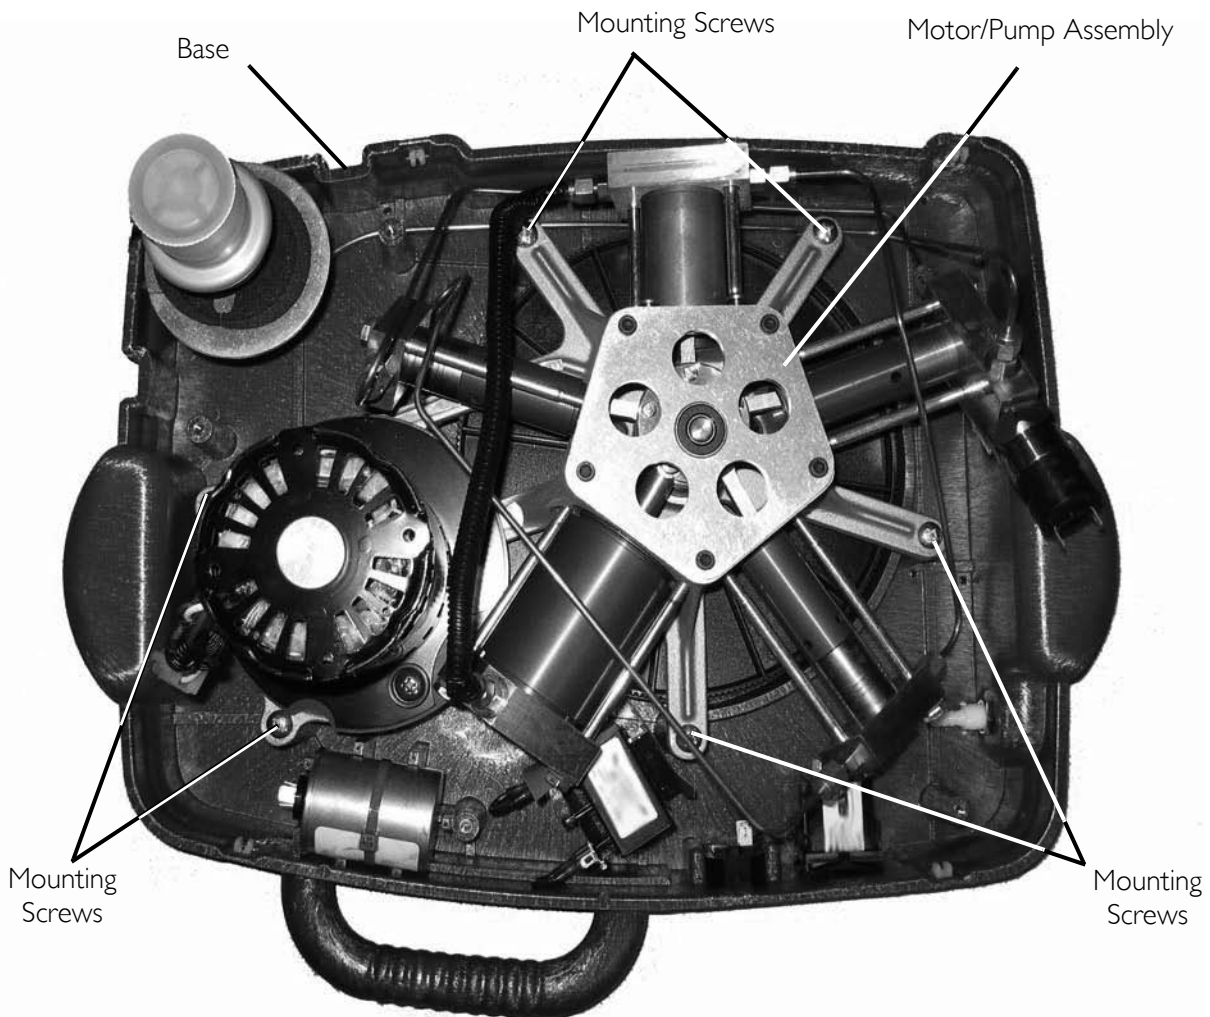

FIGURE 10.11 Compressor Replacement - HomeFill Units Manufactured After 8/1/05
23. Remove the six mounting screws that secure the compressor/motor assembly to the base (FIGURE 10.11).
8. Position the motor/pump assembly on the base (FIGURE 10.11).
9. Secure the pump/motor assembly to the base with six mounting screws. Torque mounting screws to 25-30 in-lbs (2.82-3.39 Nm) (FIGURE 10.11).